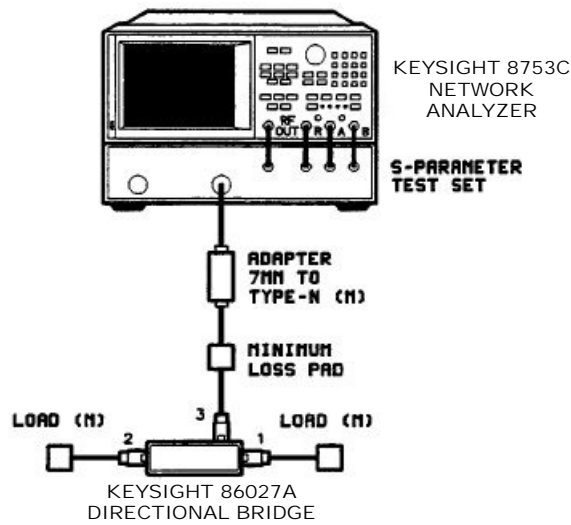

Figure 3-6 Equipment setup for return loss measurement on port 3
- 15 Connect the equipment as shown in Figure 3-6 and repeat steps 11 through 14 to find the return loss on port 3.